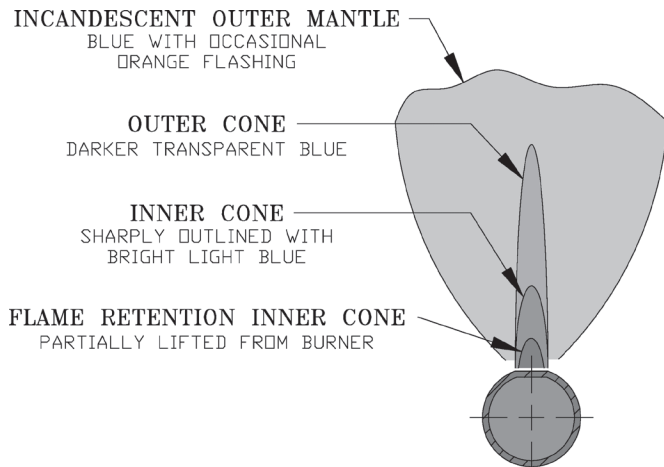

Figure 11: 1 Inch Main Burner Flame
D. Check Main Burner Flame. See Figure 11. Flame should have a clearly defined inner cone with no yellow tipping. Orange-yellow streaks caused by dust should not be confused with true yellow tipping.